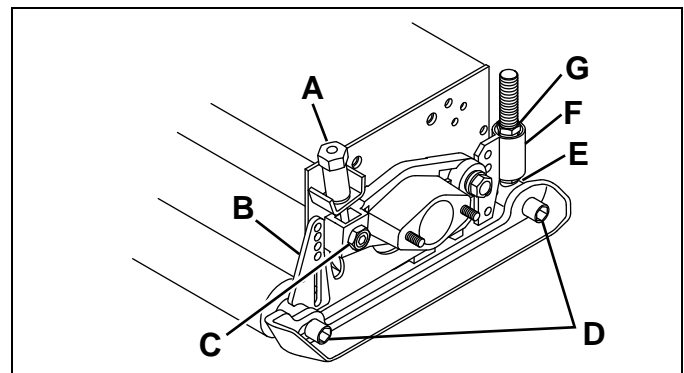

Figure 9N
6. Loosen skid mounting hardware (D - **Figure 9N**) then adjust the cutting height. (A special tool is provided with the mowers. A 5/8 in. socket and ratchet are required).